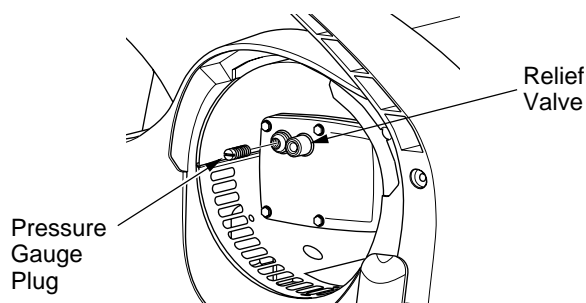

Figure 9 - Pressure Gauge Plug Removal
2. Remove pressure gauge plug from filter end cover (see Figure 9).